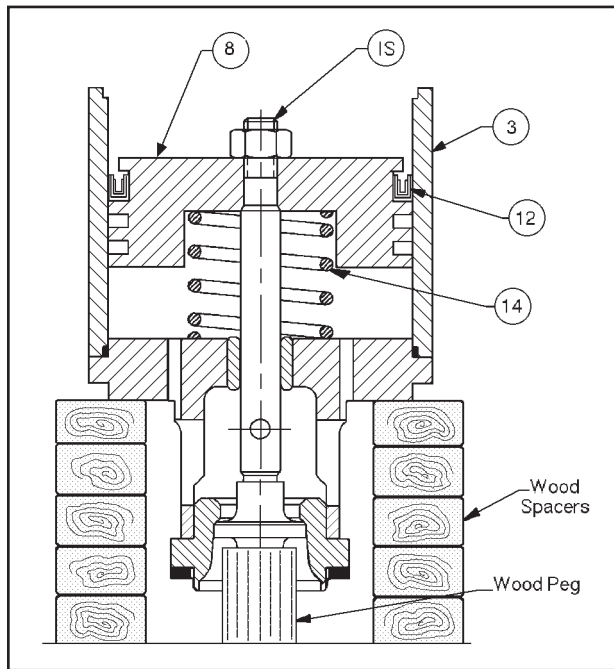

FIGURE 4
31. Place a thin film of lubricant onto the cylinder (3) inside wall at the wear points of the piston seal (12). Wipe excess lubricant away with a clean, dry cloth.
32. Place cylinder (3) into a strap support and lift with an overhead hoist. Swing cylinder (3) over threaded end of plug-stem assembly (7) and lower into the shoulder of bonnet (2), taking care to protect ring gasket (13) of previous article 30., above. Align match marks and apply duct tape to hold cylinder (3) to bonnet (2).
33. Place piston (8) with recess for piston spring (14) face down on flat surface.
34. Position a small section of the seal (12) circumference around the top recess of the piston (8). Apply an equal amount of thumb pressure on opposing sides of the seal (12) as the seal (12) is pressed around and over the top of the piston (8) into the recess. NOTE: Install seal (12) with opening of U-Cup facing upwards.
35. Place piston spring (14) into recess of piston (8).
36. Rotate stem (7) until the tool of previous article 13., this subsection, can be inserted through hole of stem (7). Leave the tool in the hole.
37. Carefully slide piston (8) with captured piston spring (14) into cylinder (3). Insert a rod or similar tool into the center hole of the piston (8), and simultaneously lift and move into the cylinder (3) deeper. Using fingers of one hand, push the plug-stem assembly (7) together from the plug (7) end. Lift piston (8) onto threaded portion of plug-stem assembly (7) as far as possible, removing tool when necessary. Place hand into cylinder (3) and push the piston (8) until the piston spring (14) begins to compress.
38. Place temporary eyenut onto threaded end of plug-stem assembly (7). Finger-tighten eyenut until piston spring (14) is slightly under compression.
39. Place a rope, cable, etc., through the eyenut and rig for overhead lifting. Simultaneously, loosen the grip of the vise on the bonnet (2), lift the cylinder (3) with its hoist, and lift the partial internals subassembly (IS) with its hoist. Continue the lifting slowly until the internals subassembly (IS) is vertical. Release the strap support from the cylinder (3). Fully release the vise’s grip.
40. Place a round wooden peg about 2" (50 mm) tall with flat ends, and small enough to fit within the seat ring (5) onto a flat work surface. Swing
partial assembly of previous article above until centered over the peg. Lower partial assembly down onto peg until weight is resting on peg. Place spacers near outside diameter of bonnet (2) 180° across to stabilize partial assembly from tipping over. See Figure 4.